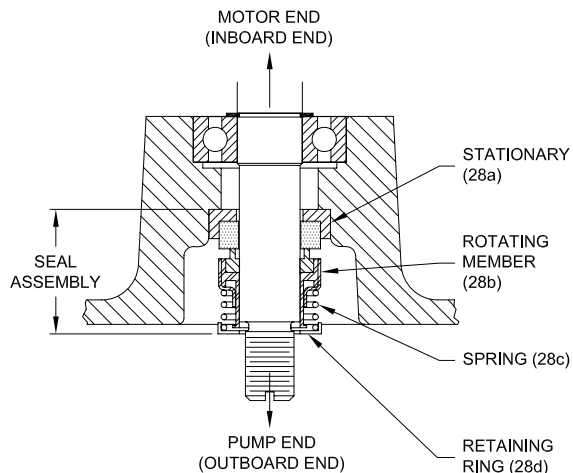

FIGURE 5 - SINGLE SEAL
Outer Seal (All Units) - To expose shaft seal (28) for examination, disassemble volute and impeller as outlined in paragraph F-2.1. If further repair is required, remove retaining ring (28d), spring (28c) and rotating member (28b) from shaft (see Figures 5 & 6). Examine all seal parts and especially contact faces. Inspect seal for signs of wear such as uneven wear pattern on stationary members, chips and scratches on either seal face. **DO NOT** interchange seal components, replace the entire shaft seal (28). If replacing seal, remove stationary (28a) by prying out with flat screwdriver.